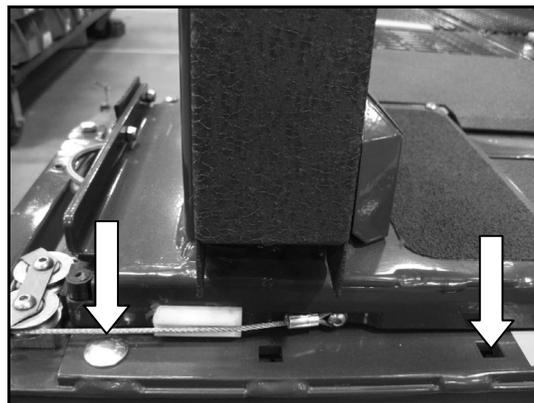

FIGURE 3-7
3. Refer to **Figure 3-7**. Remove two of the mounting bolts attaching the baseplate to the vehicle.